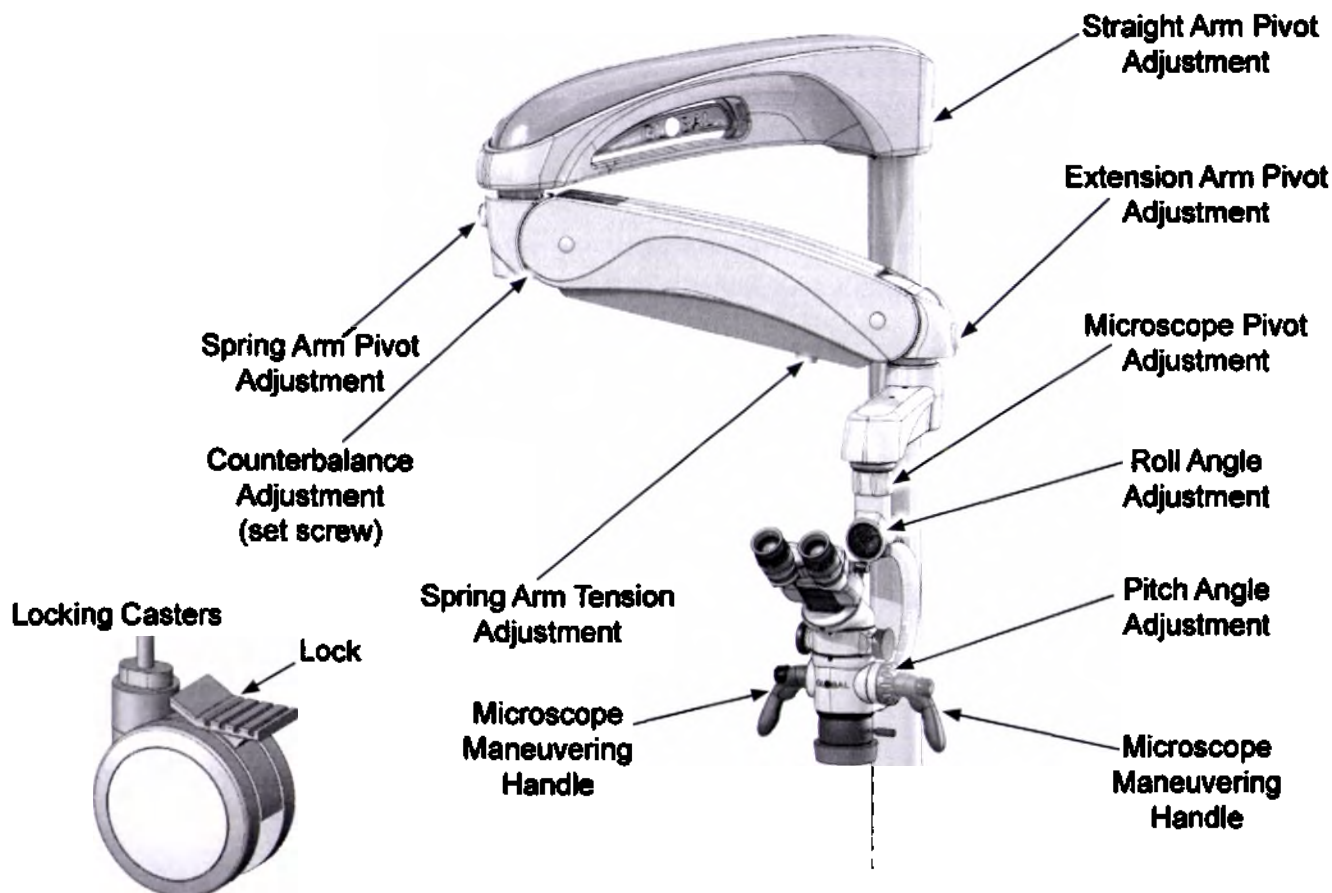

Figure 5-2 Location of Controls
Figure 5-2 shows the location of the system controls.
Adjusts the amount of tension required to move the spring arm up and down. Turn the knob to adjust the spring arm tension. See Figure 5-2
To secure the support system after it is rolled to its desired location, engage the locks on the casters. The lock is pushed down to obstruct regular wheel movement. This fixes the support system into a desired place. You can pull up the caster lock to release the wheel and move the support system, if necessary. See Figure 5-2
8. Tighten the spring arm tension adjustment (**See Figure 5-2** for location) on the spring arm assembly to prevent the microscope from moving. Set the magnification to the lowest setting. Focus both eyepieces, one at a time, by turning the diopter adjustment ring until the image is clear and sharp.